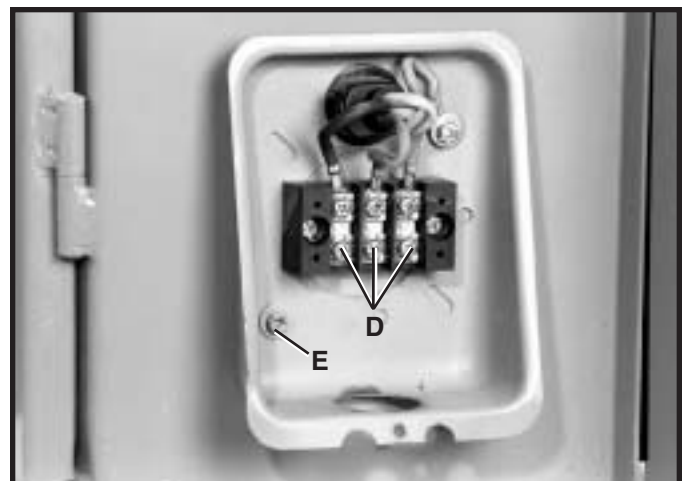

Fig. 17
3. Bring three phase power line through access hole in bottom of terminal strip box and connect the three power lines to terminals (D) Fig. 17, and the green ground wire to ground screw (E).
⚠ WARNING The rotation of the cutterhead must be in a clockwise direction when viewed from the left side of the machine; that is, the knives must be rotating toward the infeed table from the top. If the cutterhead rotation is incorrect, disconnect the machine from the power source and interchange any two of the three incoming power lines connected to terminals (D) Fig. 17.